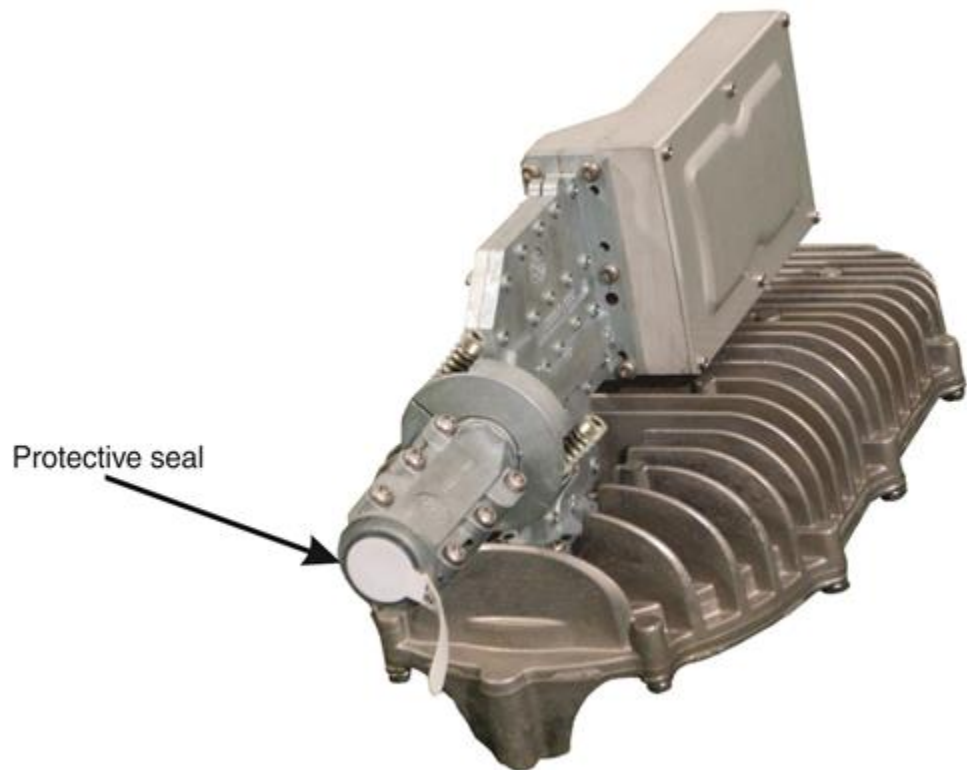

Figure 18: Remove the protective seal from the polarizer
1. Remove and discard the protective seal from the polarizer on the radio assembly, shown in Figure 18.